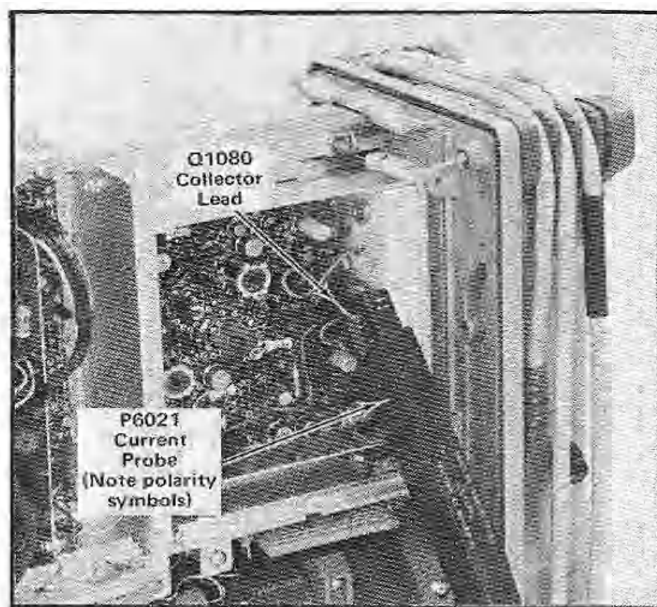

Fig. 5-1. Measuring Q1980 collector current.
a. Turn off instrument power, disconnect the power line, and remove the power supply compartment shields to provide access to leads connected to transistor Q1080. See Fig. 5-1.